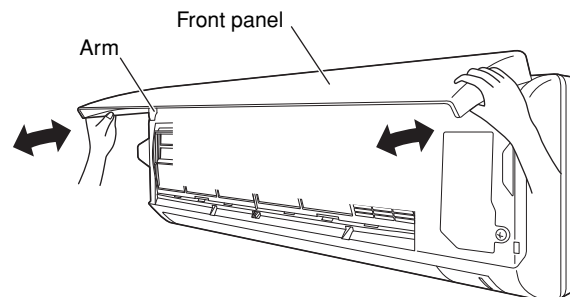

Fig. 16-3
- (1) Open the front panel until it is nearly horizontal, grasp the sections near the front panel arms on both sides, and then pull towards you to remove the front panel. (Fig. 16-3)